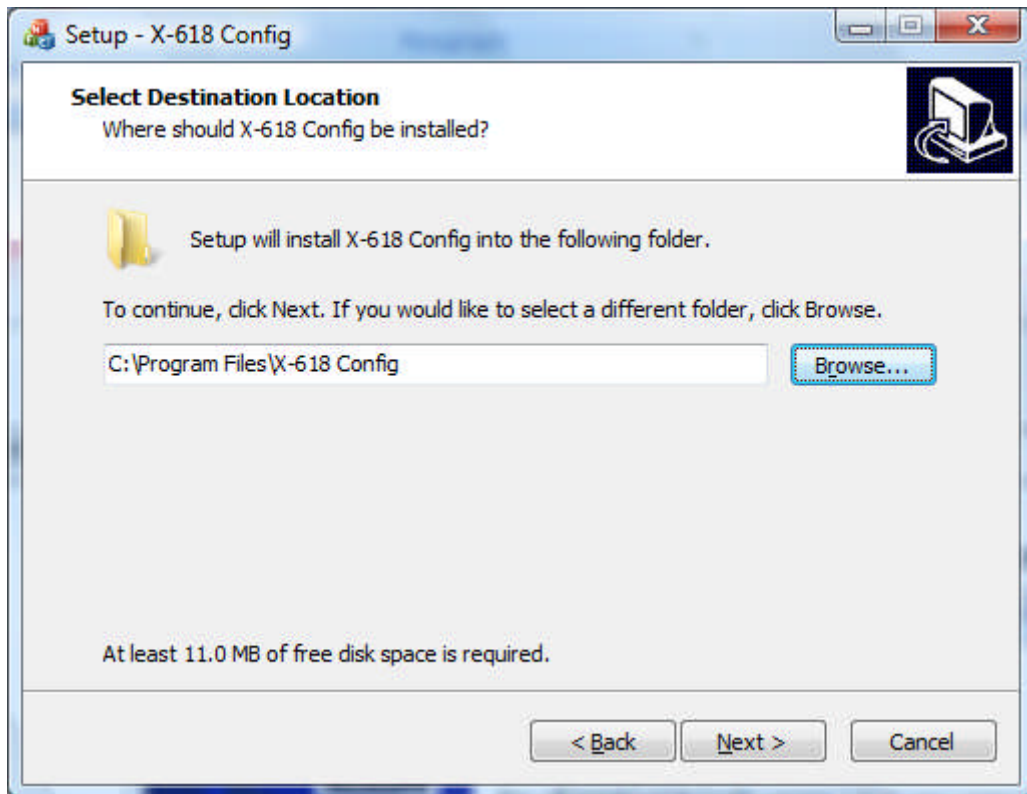

Figure 2 **Select Destination Location**
5. Click **Next**. The page shown in Figure 2 is displayed.